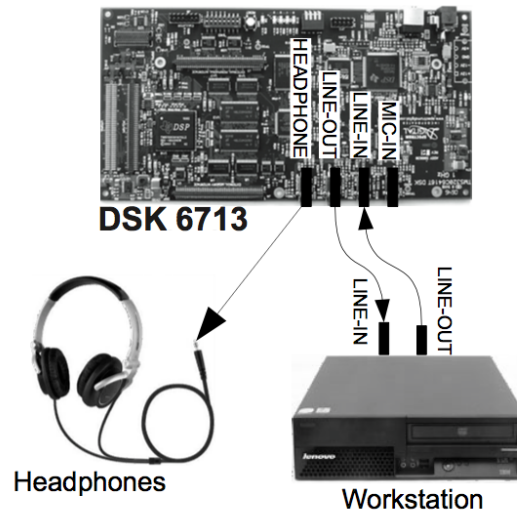

Figure 4: Hardware Setup.
- (b) **Amplification:** Using the hardware setup shown in Fig. 4, use Simulink to generate an executable which amplifies the input (hint: Block ADC) and puts it on the output (hint: Block DAC). Try different amplification factors (hint: see “Simulink” → “Commonly Used Blocks” → “Gain”).